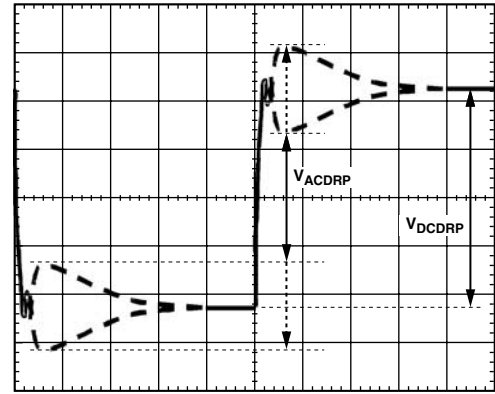

Figure 3. AC Loadline Waveform
Figure 3 shows the typical transient response using the compensation values.
15. The waveform should look something like Figure 3. Use the horizontal cursors to measure  $V_{ACDRP}$  and  $V_{DCDRP}$  as shown. **DO NOT MEASURE THE UNDERSHOOT OR OVERSHOOT THAT HAPPENS IMMEDIATELY AFTER THE STEP.**